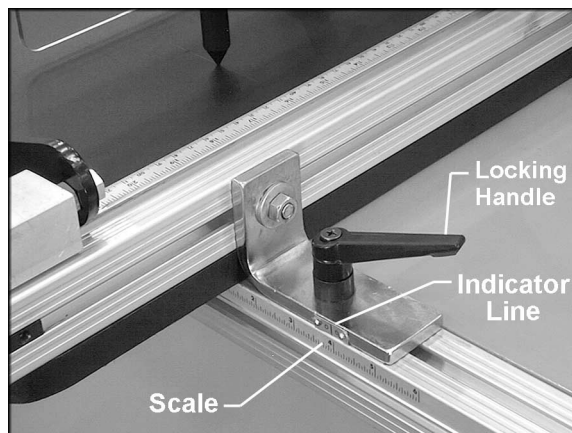

Figure 17
The table can be moved forward or backward to adjust the centerline of the holes in your workpiece. The scale (Figure 17) shows the measurement from fence to centerline of the holes. When the table is all the way to the back, the hole centerline will be 6 inches from the rear edge of your workpiece.
1. Loosen the two locking handles on both sides of the machine, behind the table. See Figure 17.
2. Slide the table forward or backward until the indicator line matches the required dimension on the scale (Figure 17).